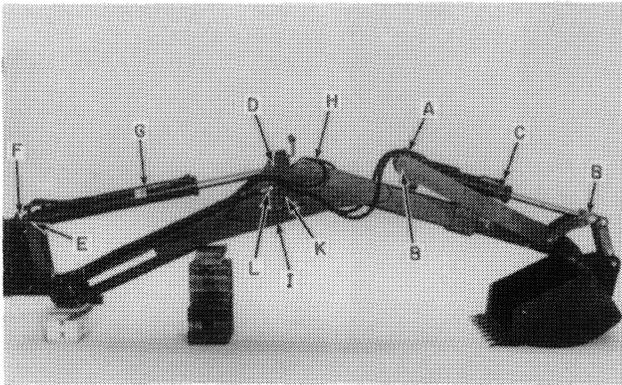

FIGURE 2-11
1. Position the back boom, dipper, and bucket as shown in Figure 2-11.